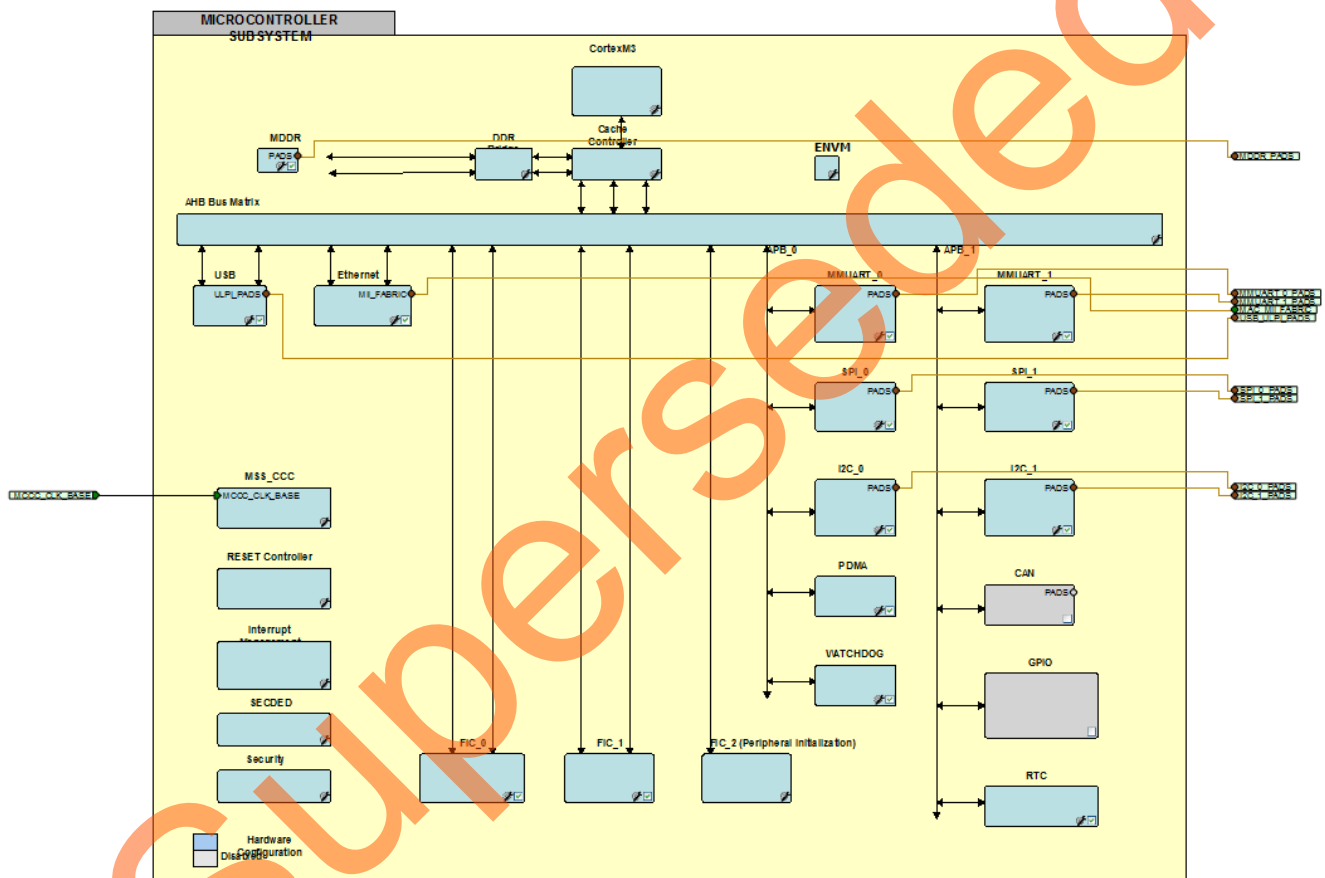

Figure 6. MSS in SmartDesign Canvas
1. Double-click **Acess_EXT_SDRAM_MSS_0** to configure the MSS. The MSS is displayed in the SmartDesign canvas in a new tab, as shown in Figure 6.